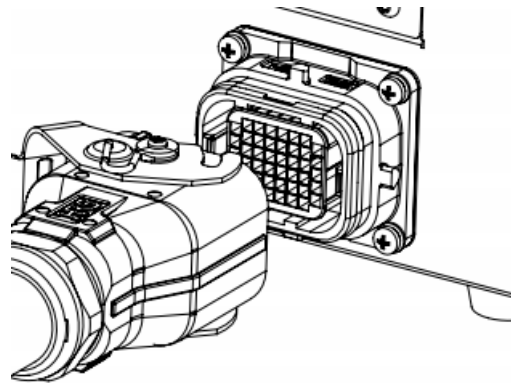

Figure 6-7 Control cabinet side heavy load line connection interface
- Step2. Connect the control cabinet, insert the plug at one end of the heavy load line into the connection port of the heavy load line of the control cabinet (see Figure 6-7), and fasten the lock.